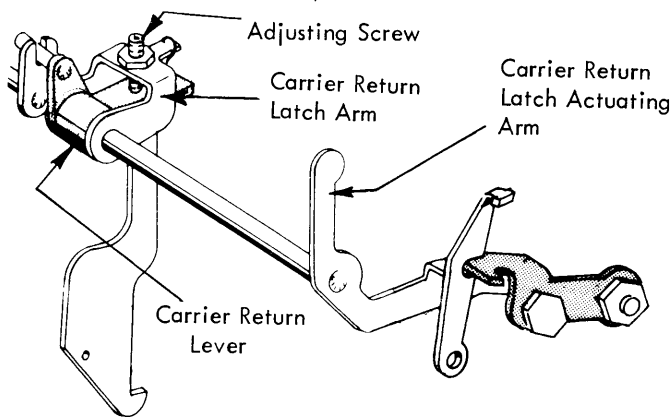

FIGURE 133. *Clutch Latch Overthrow Adjustment (723 And 725)*
- b. Carrier Return Latch Arm Adjusting Screw (overthrow) With the carrier return cam on the high point adjust the latch arm adjusting screw (Fig. 133) so that the clutch latch will overthrow the latching surface of the keeper by .030" to .040". Be sure that the platen and feed rolls are installed and the index selector lever is in the double index position when checking this adjustment.